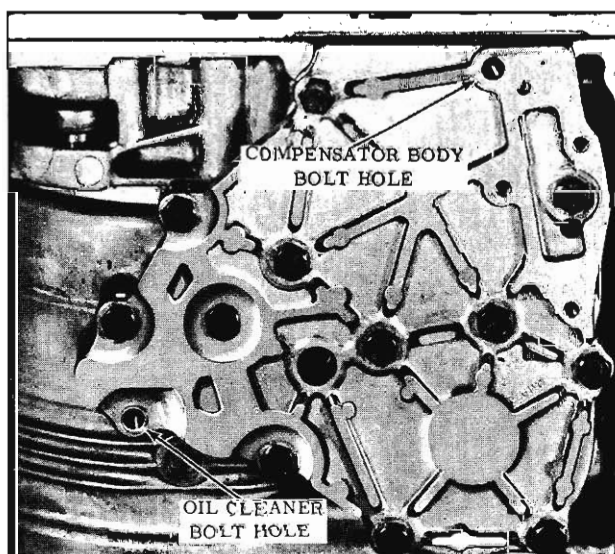

Fig. 6-119 Accumulator Cover Bolt Location
14. Install eight servo and accumulator cover bolts. Leave the remaining bolts out. (Fig. 6-119) Torque 6 to 8 ft. lbs.